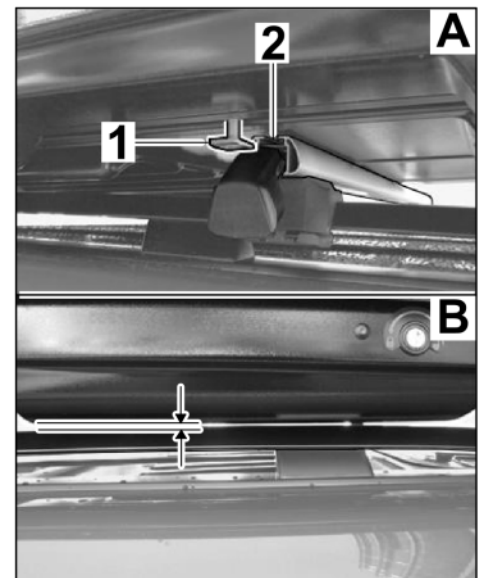

Figure 6
- 4.2 Open the cap of the roof transport system (front/rear) on this side (⇒ Owner's Manual, section on 'Roof Transport System') and install roof box (520 liter) on the roof transport system (⇒ *Figure 6*).
- 4.3 Check the position of the next sliding block (T-bolt, M8 x 55) with respect to the groove in the roof transport system carrier and align it as required (⇒ *Figure 6 -A-*).